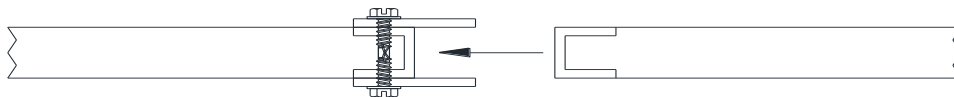

Figure B.1
2. One of the two panels will have tie plates already attached, creating a channel (Figure B.1) used to insert the opposite panel.